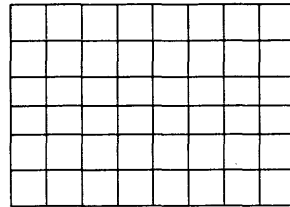

Fig.7
**g) Crosshatch 8 × 6 (Fig.7)**